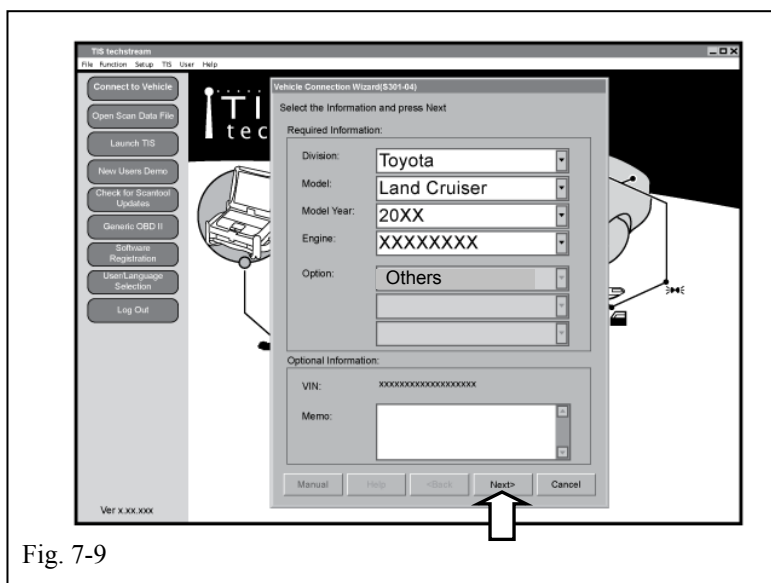

Fig. 7-9
- (q) Confirm that the information displayed on the Vehicle Connection Wizard is correct for the Vehicle. If not verify that the Techstream is properly connected. (Fig. 7-9)
- (r) Under Option, select "Others" then Click "Next>." (Fig. 7-9)